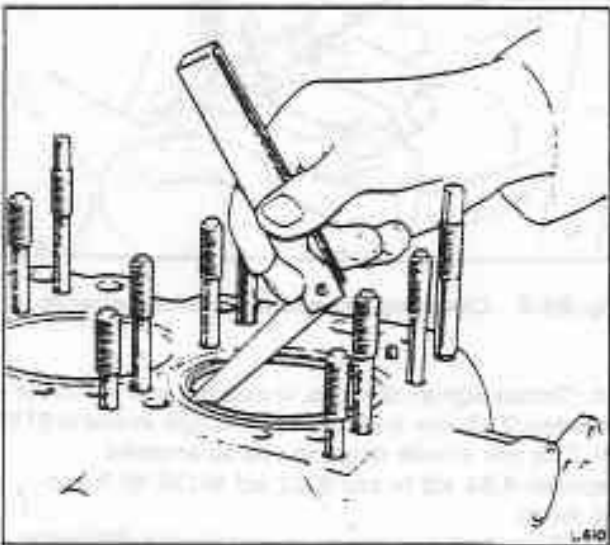

Fig. E6-8 Checking the piston ring gap
5. Check the compression rings in either a 104,14 mm (4.10 in) diameter ring gauge, or an unworn part of the cylinder (see fig. E6-8), after first ensuring that no carbon deposits exist in the unworn bore. If the rings are in good condition no light should show around the circumference of the rings.